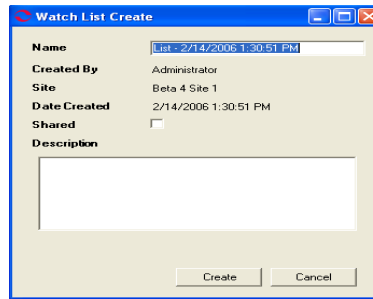

Figure 3-56: WatchList Create
3. In the WatchList Create window shown in Figure 3-56, fill in the list name, check the Shared box if you wish others to be able to make changes to this list, and enter a description. All other information is automatically entered for you. Click **Create**.